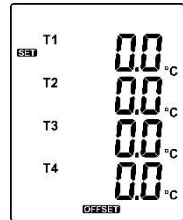

Fig.10
- (1) Press the or button to select thermocouple channel. (see Fig.10)